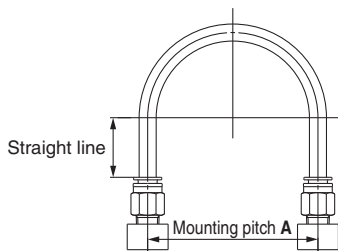

Figure 1 Recommended piping
1. When connecting piping to the One-touch fitting, use pipe length with sufficient margin, in accordance with the piping conditions shown in Figure 1.